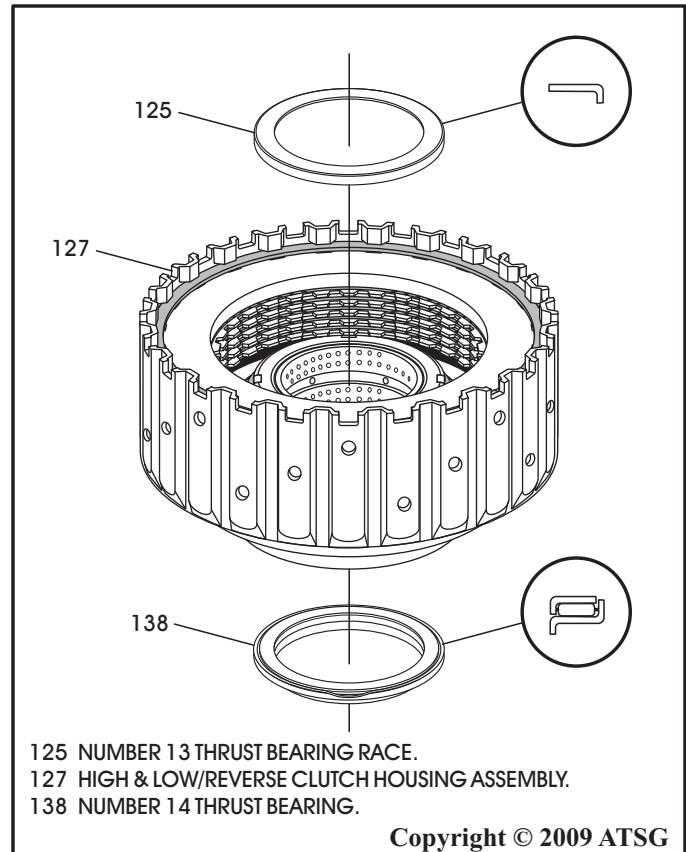

Figure 137
14. Install the number 13 thrust bearing race onto high and low/reverse clutch housing, as shown in Figure 137, and retain with Trans-Jel®.